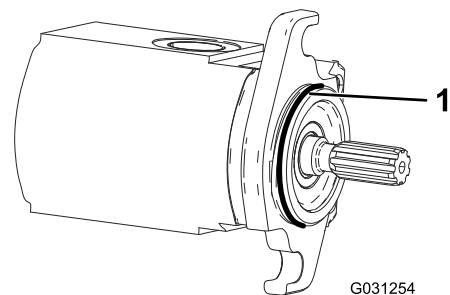

Figure 7
4. Install the O-ring on the reel motor (Figure 7).